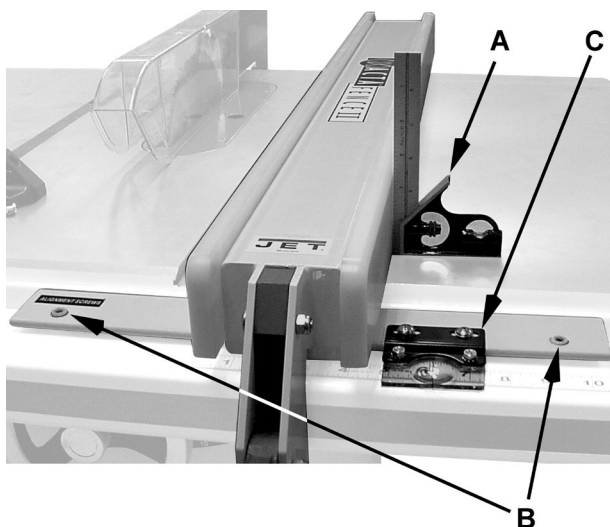

Figure 17
2. Place a square (A, Fig. 17) on the table next to the fence. The fence should be 90° to the table.
3. If adjustment is necessary, unlock the fence, and turn one of the two nylon adjustment screws (B, Fig. 17) until the fence is 90° to the table.
6. Adjust the cursor (C, Fig. 17) to read the distance just measured and tighten the cursor assembly to the fence.